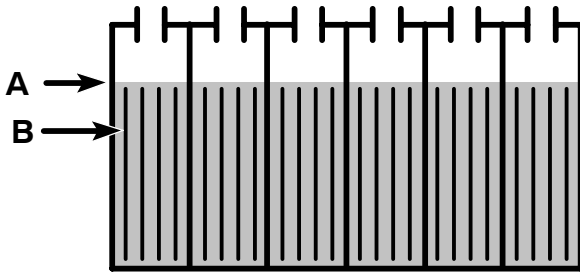

FIG. 33
The electrolyte level (A) should slightly cover the battery plates (B). Add distilled water as needed. DO NOT OVERFILL, the fluid may expand and overflow while charging. Replace cell caps before charging (Figure 33).